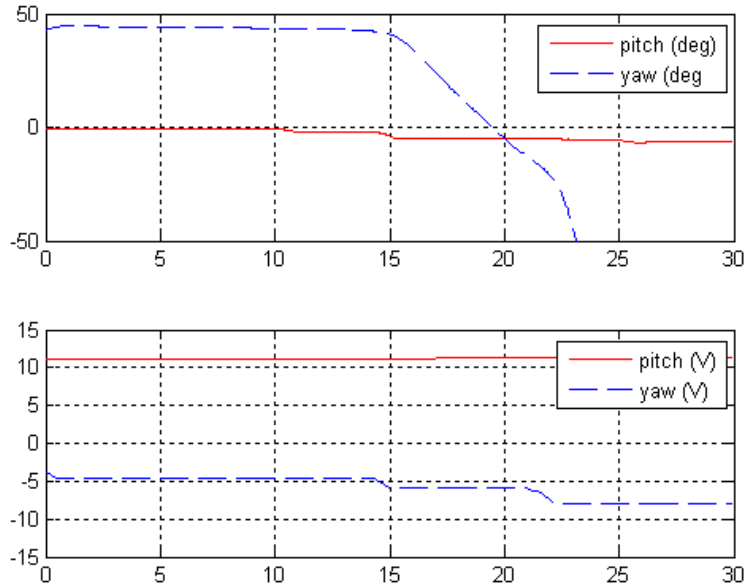

Figure 34: Effect of yaw on pitch.
17. As depicted in Figure 34, applying a negative voltage to the yaw motor causes the pitch angle to decrease, i.e. the helicopter nose goes down. Similarly to the effect the pitch motor has on the yaw motion, the voltage applied to the yaw motor generates a torque on the pitch axis